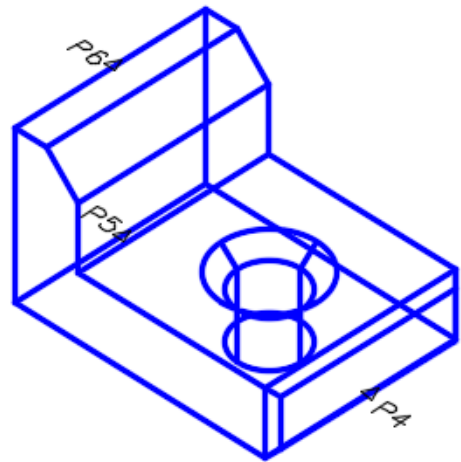

Figure Step 10A
Step 10 Set the current visual style to 2D Wireframe and set layer: Hatch as the current layer. Using the copied solid, enter the SECTION command, as shown below, to create a cross section. (Figure Step 10A and 10B)